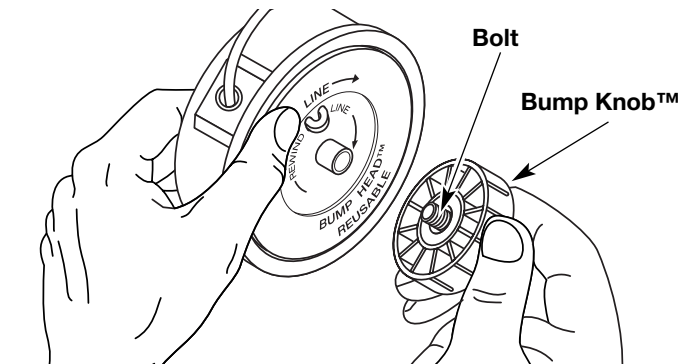

Fig. 16
1. Hold the outer spool with one hand and unscrew the Bump Knob™ counterclockwise (Fig. 16). Inspect the bolt inside the Bump Knob to make sure it moves freely. Replace the Bump Knob if damaged.
1. Hold the outer spool with one hand and unscrew the bump knob counterclockwise (Fig. 16). Inspect the bolt inside the bump knob to make sure it moves freely. Replace the bump knob if damaged.